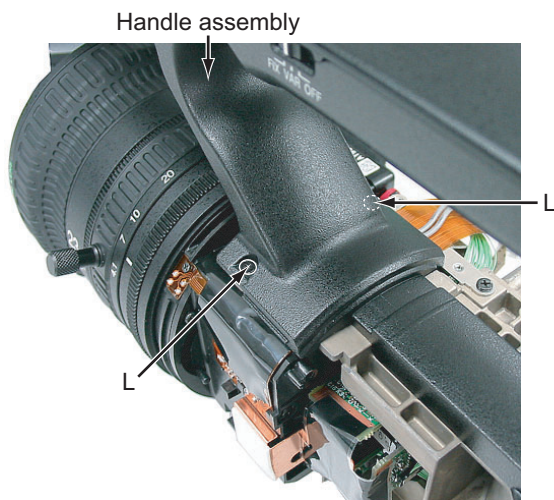

Fig. 14
3.1.6 Removing the handle assembly (See Figure 14 and 15)